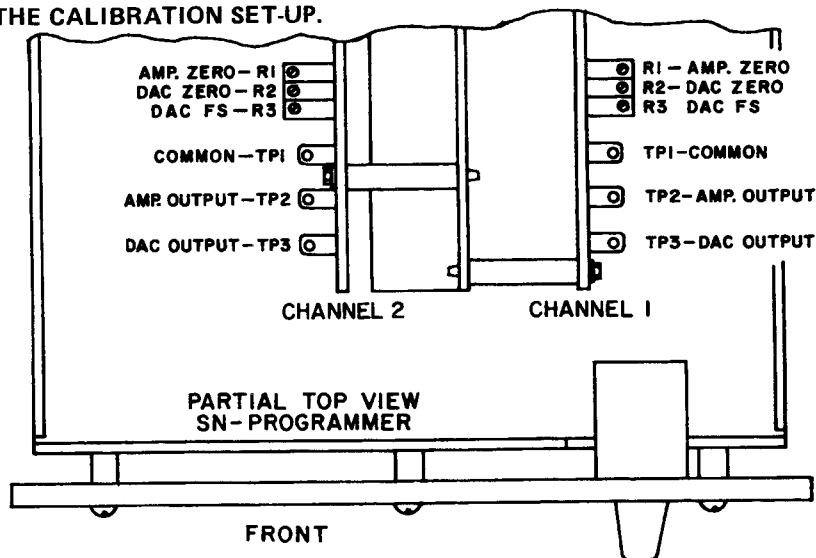
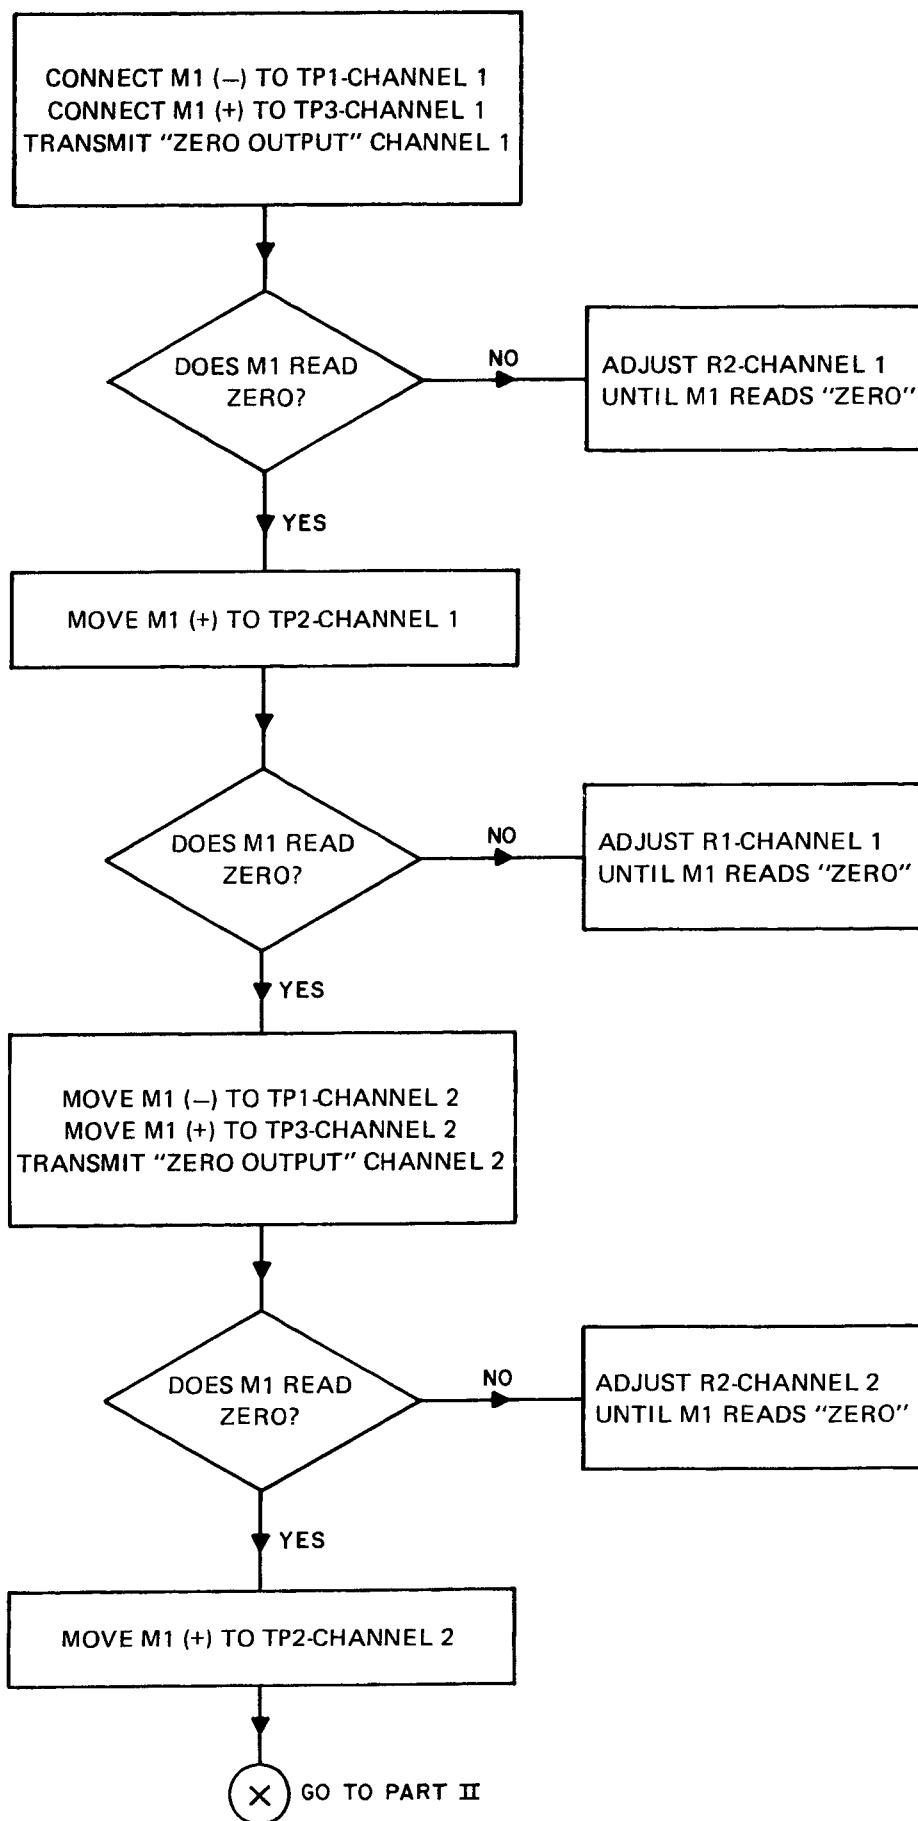

FIG. 3-8 LOCATION OF TEST POINTS AND CALIBRATION CONTROLS,
FIG. 3-9 CALIBRATION FLOW-CHART, PART I
- B) Refer to Fig. 3-8 for the location of TEST POINTS and CALIBRATION CONTROLS. Proceed as directed on the FLOW-CHART, Fig. 3-9 and Fig. 3-10.